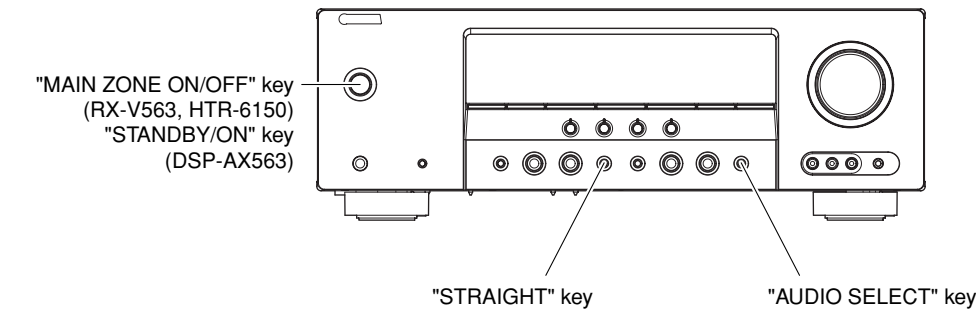

Fig. 7
2. Press the “MAIN ZONE ON/OFF” (RX-V563, HTR-6150) / “STANDBY/ON” (DSP-AX563) key while simultaneously pressing the “STRAIGHT” and “AUDIO SELECT” keys. (Fig. 7)